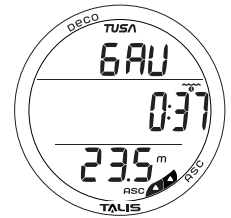

Fig. 83 - GAUG DIVE MAIN
**GAUG Dive Main** information includes (Fig.83):